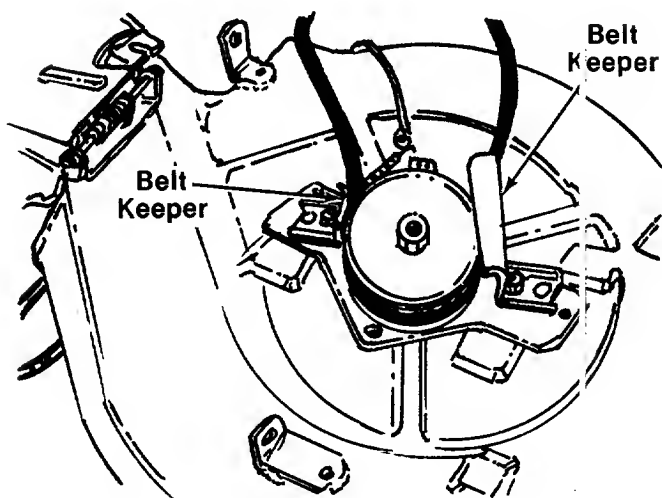

FIGURE 27.
11. Remove the two belt keepers on the deck. See figure 27.